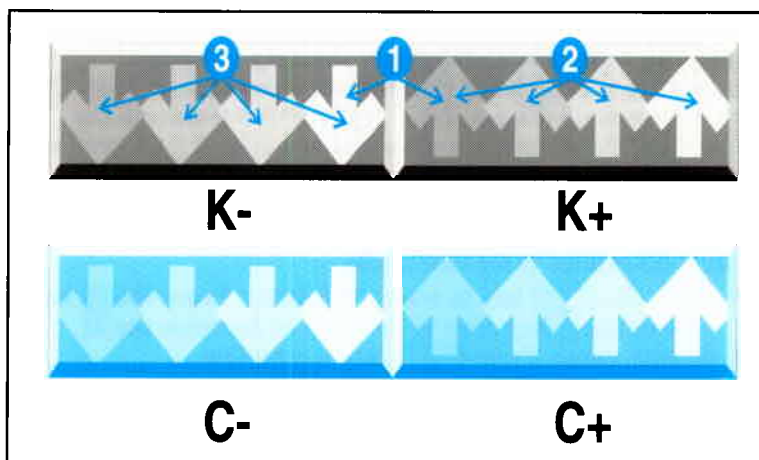

Figure 7-52 Adjusting Black and Cyan Density Settings
Examine the black bar from a distance of 6 feet (2m). If the two center arrows (Figure 7-52, item 1) blend into the background of the black bar, the black density does not need to be adjusted (continue with the cyan setting). If one set of arrows (left corner or right of center) is more visible on the black bar, do the following:
- If the four arrows on the right (Figure 7-52, callout 2) are more visible, the density needs to be increased. Press the **+** key once.
- If the four arrows on the left (Figure 7-52, callout 3) are more visible, the density needs to be decreased. Press the **-** key once.